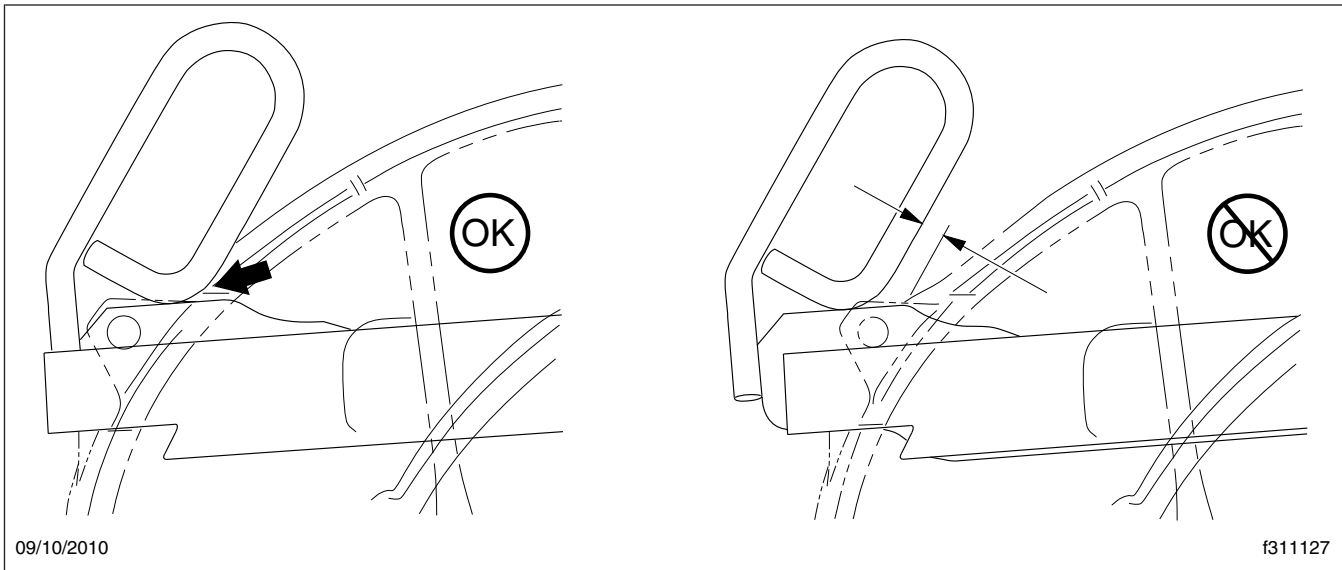

Fig. 17.9, Jost Release Handle Locked
12. Ensure that the release handle is in the locked position adjacent to the casting. See Fig. 17.9.